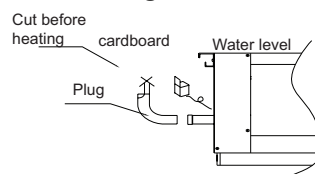

Fig.7
- Remove the card board and cut the end of the plug before heating the pipes to remove the plug (refer Fig.7).